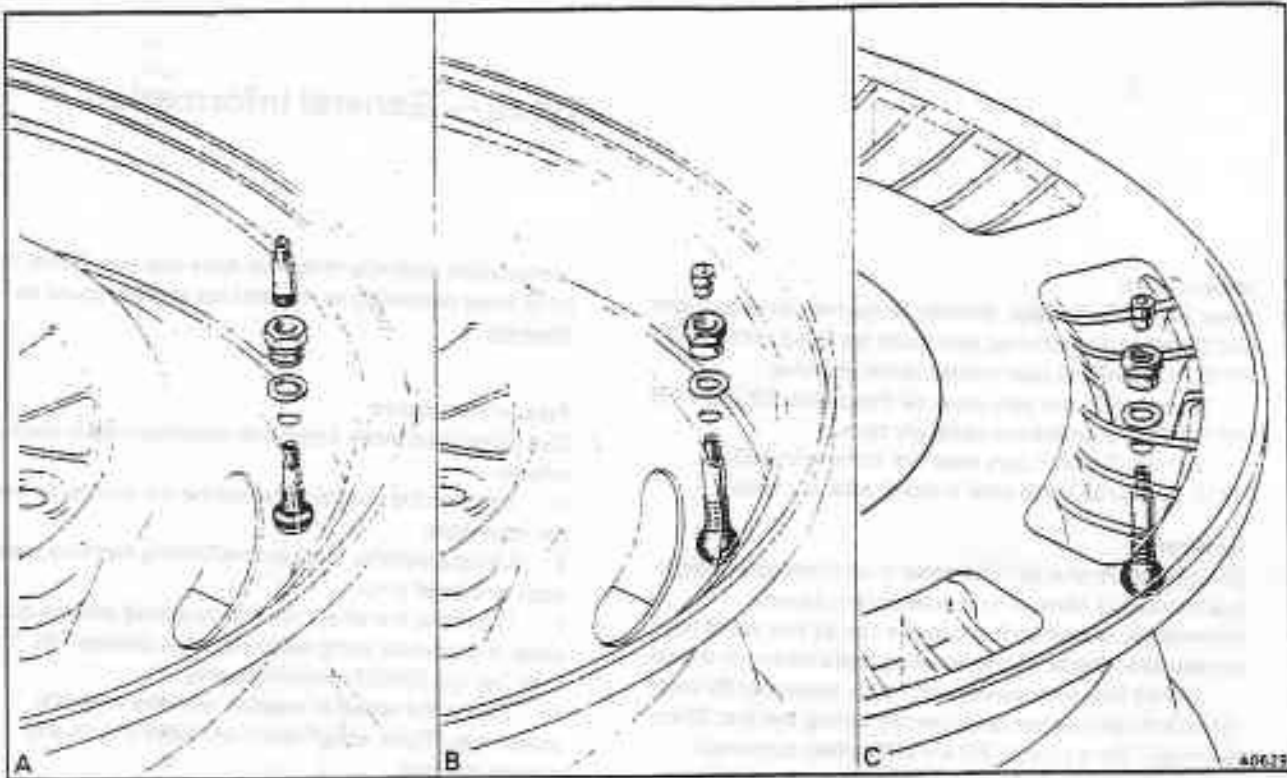

Fig. R2-1 Clamp-in tyre valves
Insert the valve into the hole in the wheel rim, then fit the valve securing nut and washer (see fig. R2-1). When fitting a new valve, do not use tyre bead lubricant or grease of any kind. Using a 14 mm (5/8 A/F) long reach socket, torque tighten the nut to the figures specified in Section R4. Do not overtighten.
2. Insert the valve into the rim, then fit the valve securing nut and washer (see fig. R2-1). When fitting a new valve, do not use tyre bead lubricant or grease of any
On cars fitted with tyre valve extension pieces, dustcaps are not fitted (see fig. R2-1, inset A). Do not release the extension pieces when checking the tyre pressures.